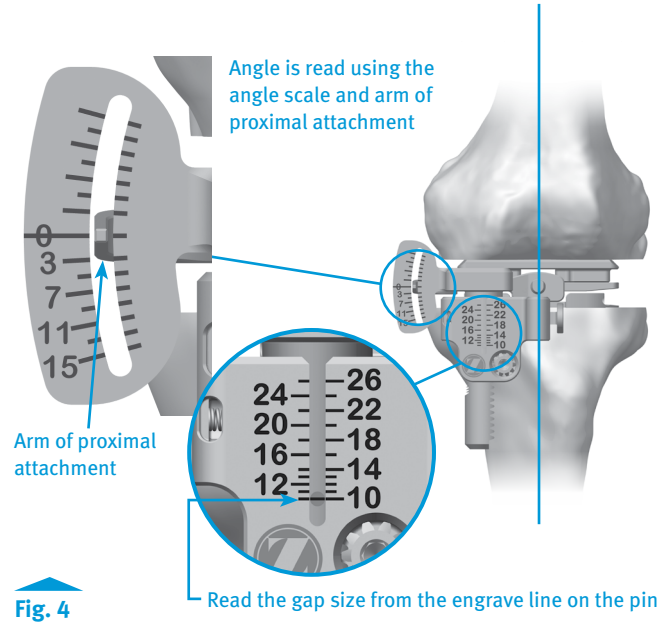
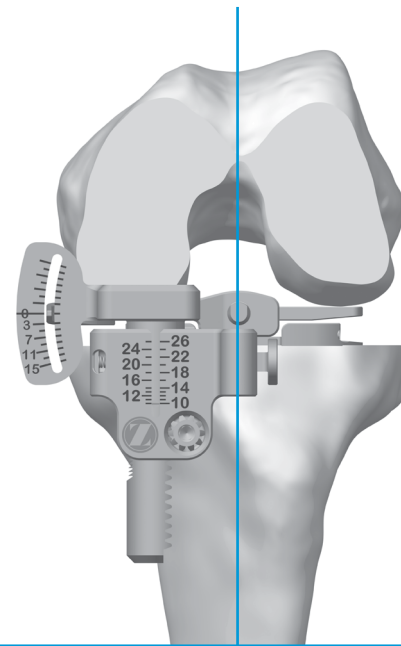

Fig. 4
Fig. 5
- The angle scale on the medial side of the instrument should read 0° indicating a rectangular gap. If needed, balance the extension gap using ligament release (Fig. 4).
- After the gap is balanced and rectangular, measure the gap distance using the gap scale on the anterior face of the Zimmer FuZion Tensor (Fig. 4).
- While assessing the gap, it is very important to align the tensor's center pivot of the femoral paddle with the center of the knee and the AP Axis of the tibia (medial 1/3 of the tibial tubercle and the anterior insertion of the posterior cruciate) (Fig. 4 & Fig 5).
- Remove the Zimmer FuZion Tensor from the extension gap. Remove the +9mm Zimmer FuZion Femoral Paddle. Bring the leg into 90° of flexion. Insert the Zimmer FuZion Tensor with the +0mm Zimmer FuZion Femoral Paddle between the cut tibial surface and the uncut posterior condyles, as shown (Fig. 5).